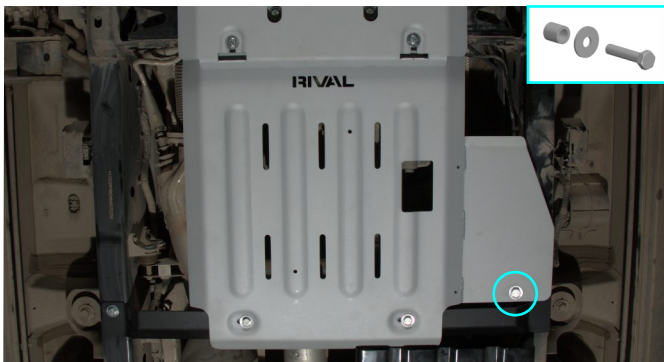

Fig. 11
11. Secure transfer case flap (item 1) using bolt M10x50, flat washer M10 and spacer 22 mm (items D, E, F) (fig.11).